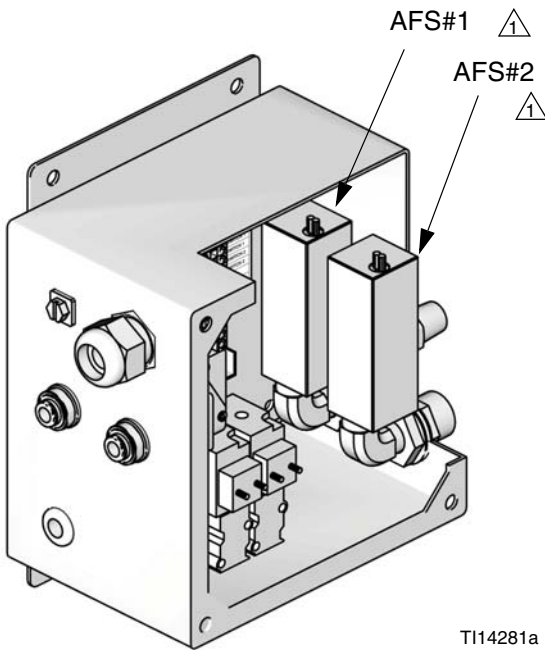

FIG. 3. Install Air Flow Switch (two shown)
1. Each gun flush box kit includes one air flow switch (AFS). The GFB interface module can accommodate 1 or 2 air flow switches. Install the switch(es) in the right side of the enclosure. See FIG. 3.